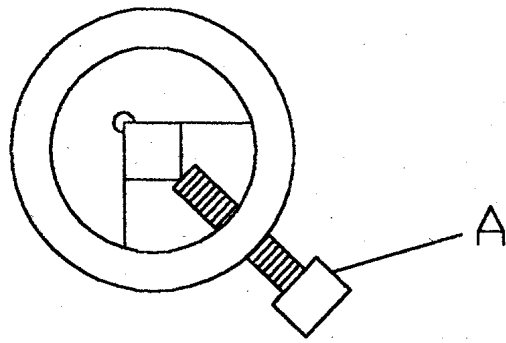

FIG. 6-1B
1. PUT THE ELECTRODE INTO THE HOLDER AND FIX IT BY THE SCREW (IN FIG. 6-1B).